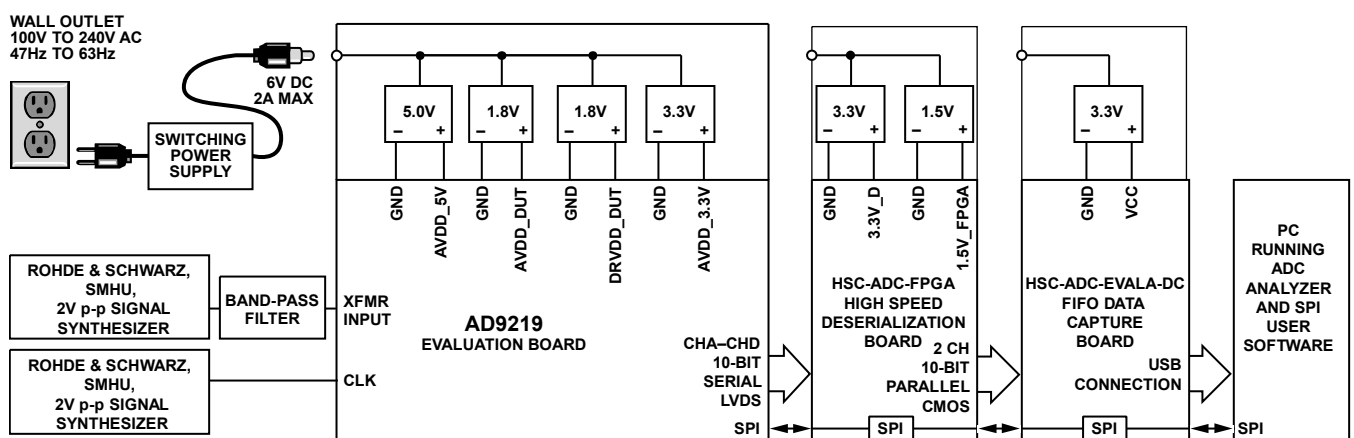
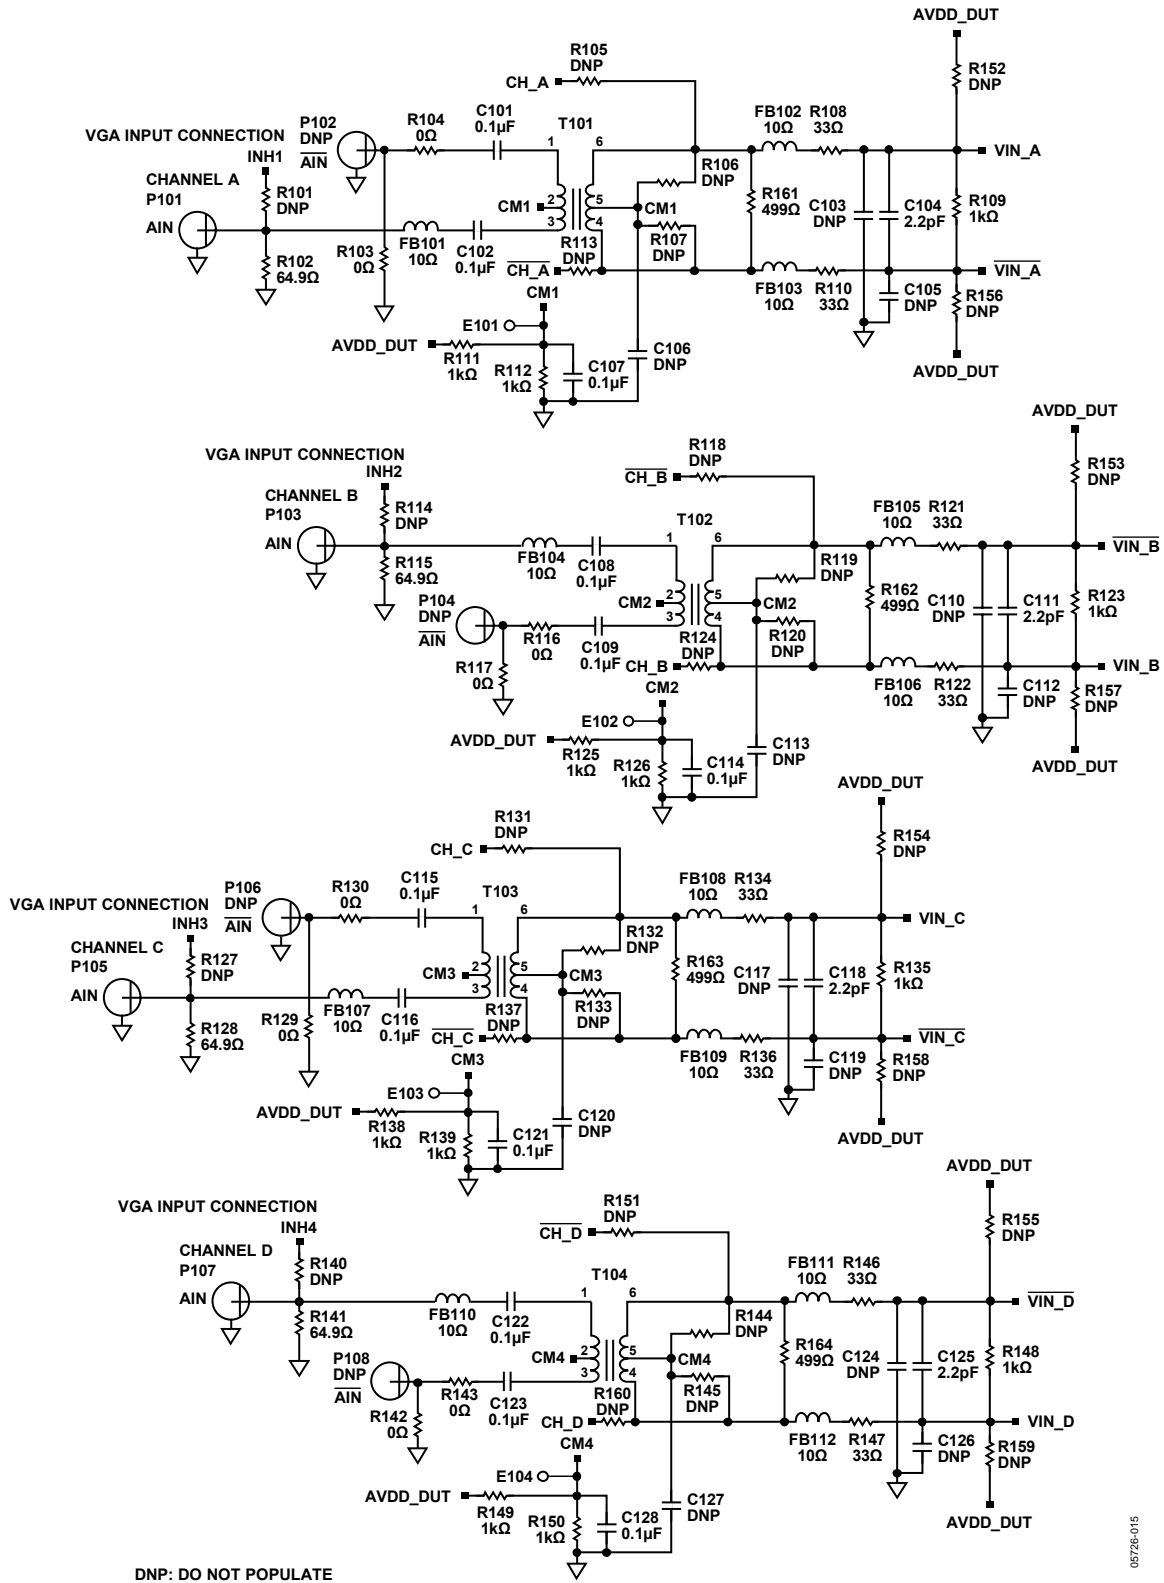
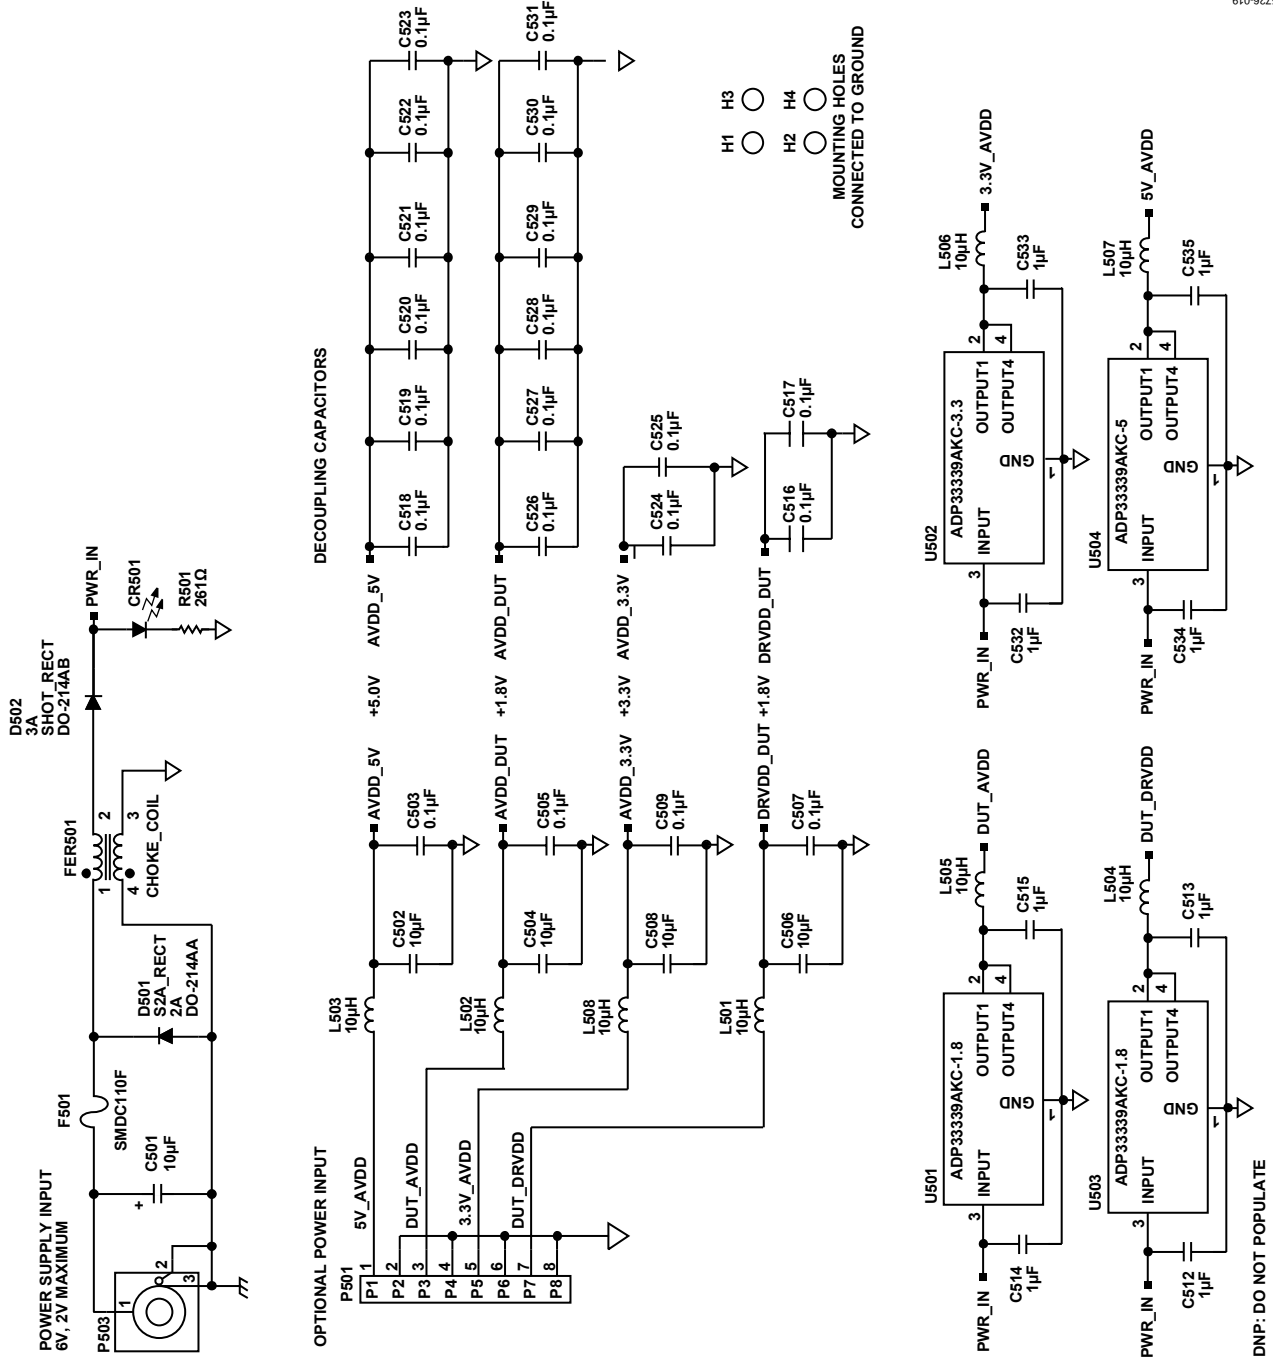

Figure 70. Evaluation Board Connection
Figure 72. Evaluation Board Schematic, DUT Analog Inputs
Figure 76. Evaluation Board Schematic, Power Supply Inputs
The AD9219 evaluation board provides all of the support circuitry required to operate the ADC in its various modes and configurations. The converter can be driven differentially through a transformer (default) or through the AD8332 driver. The ADC can also be driven in a single-ended fashion. Separate power pins are provided to isolate the DUT from the AD8332 drive circuitry. Each input configuration can be selected by proper connection of various jumpers (see Figure 72 to Figure 76). Figure 70 shows the typical bench characterization setup used to evaluate the ac performance of the AD9219. It is critical that the signal sources used for the analog input and clock have very low phase noise (<1 ps rms jitter) to realize the optimum performance of the converter. Proper filtering of the analog input signal to remove harmonics and lower the integrated or broadband noise at the input is also necessary to achieve the specified noise performance.
See Figure 72 to Figure 80 for the complete schematics and layout diagrams that demonstrate the routing and grounding techniques that should be applied at the system level.
- **D+, D-:** If an alternative data capture method to the setup described in Figure 72 is used, optional receiver terminations, R206 to R211, can be installed next to the high speed back-plane connector.